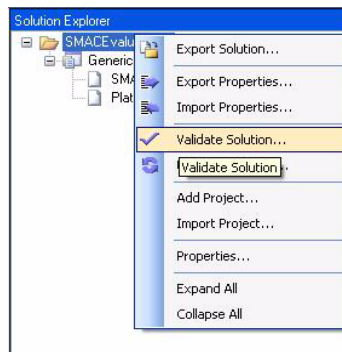

Figure 6. Validating a Solution
6. Users must now validate the solution as shown in Figure 6.